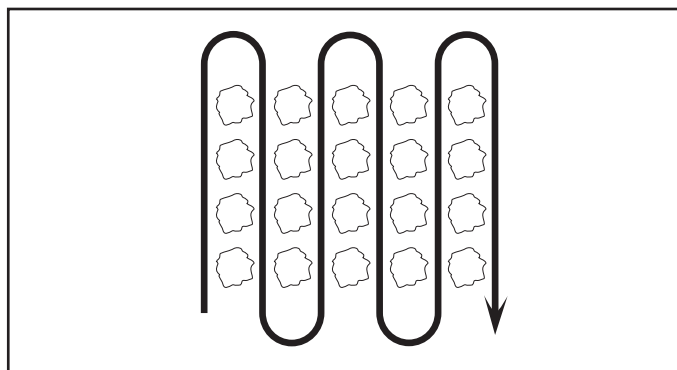

FIG. 9
- Cultivate up and down the rows at a speed which will allow tines to uproot weeds and leave the ground in rough condition, promoting no further growth of weeds and grass (See Fig. 9).